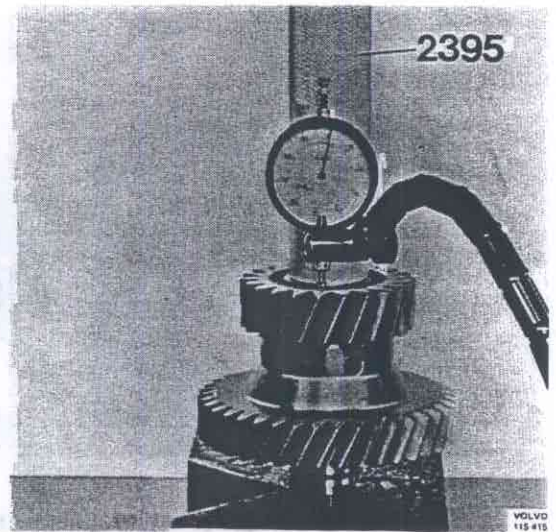

Fig. 43-169. Checking clearance
5. Place the intermediate gear complete in a press and fit 2395 on the small bearing inner race, Fig. 43-169. Press on the bearing using a force of about 1 ton. Check the axial clearance of the gear with a dial indicator. The clearance should be  $+0.01 \text{ mm } (+0.0004")$  to  $+0.06 \text{ mm } (+0.0024")$ . Remove the requisite number of shims in order to get the proper clearance.